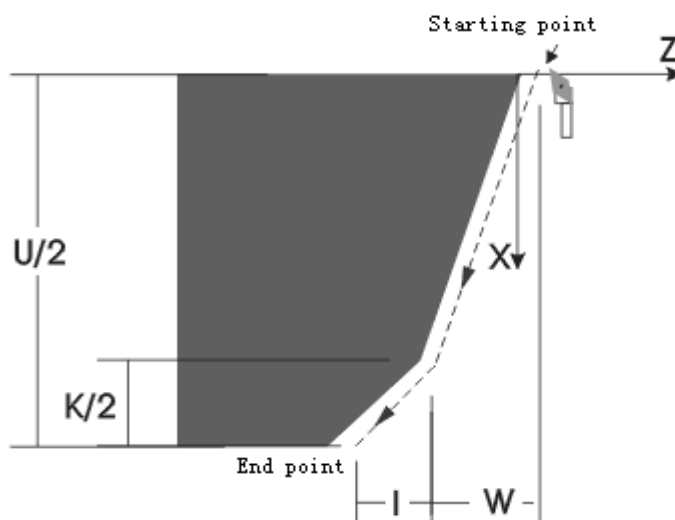

Fig. 4-10
2) G33 end face taper thread: as Fig. 4-10